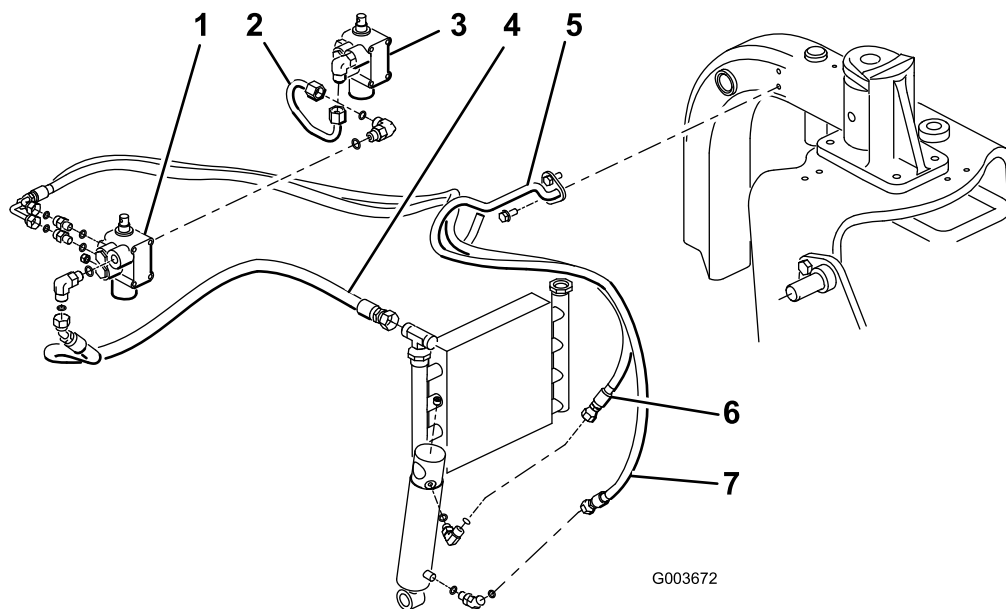

Figure 14
or cap the fitting on the cooler using one of the protective shipping caps removed from the tube assembly, part no. 108-8447 (Figure 14).
4. Connect the tube assembly, part no. 108-8447, to the 90 degree fitting on the left side of the new valve and the vacated fitting on the existing lift valve (Figure 14).
5. Connect the 45 degree fitting end of hydraulic hose, part no. 108-8449, to the 90 degree fitting on the right side of the valve and the straight end of the hose to the vacant oil cooler fitting (Figure 14). Refer to Figure 15 and Figure 16 for hose routing.
6. Mount the wire hose holder to the left frame tube with 2 thread forming screws (5/16 x 3/4 inch) (Figure 14).
7. Connect the short 90 degree fitting end of hydraulic hose, part no. 108-8453, to the top straight fitting on the rear of the valve. Route the hose through the wire hose holder and connect the straight end of the hose to the top hydraulic cylinder fitting (Figure 14). Refer to Figure 15 and Figure 16 for hose routing.
8. Connect the long 90 degree fitting end of hydraulic hose, part no. 108-8454, to the bottom straight fitting on the rear of the valve. Route the hose through the wire hose holder and connect the straight end of the hose to the bottom hydraulic cylinder fitting (Figure 14). Refer to Figure 15 and Figure 16 for hose routing. Make sure hoses are routed away from any sharp, hot or moving components.